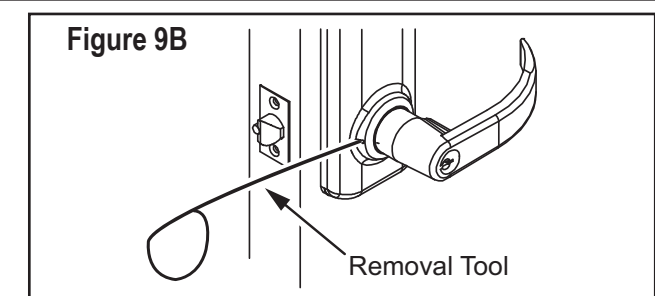

Figure 9B
2. Insert lever **removal tool** in slot. (Fig. 9B)